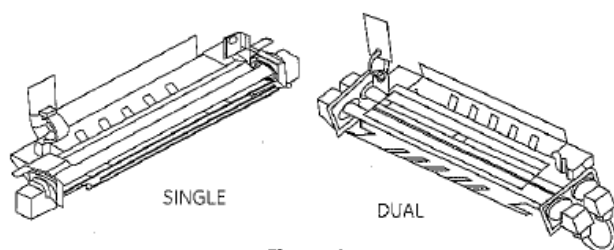

Figure 1
6. Look at existing Defrost Heater and determine if it is a single, or dual element heater (See Figure 1).